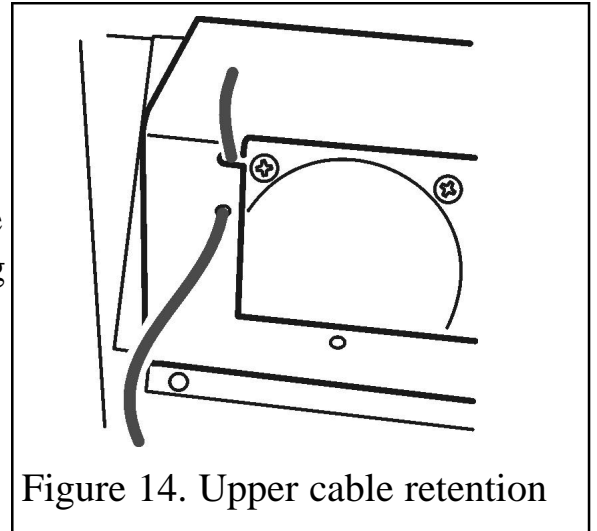

Figure 14. Upper cable retention
5. The rear of the convection box has a slot and hole each side of the outlet opening. Assemble one end of the cable to the top of the fire by passing it through the small round hole and locking by positioning the cable in the adjacent slot (See figure 14). Give the cables a pull so that they grip.